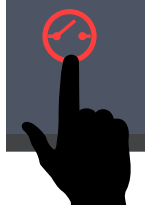

Figure 62. Open Contactor Button
2. Press the **Open Contactor button** (Figure 62) on the digital controller to open the contactor contacts.